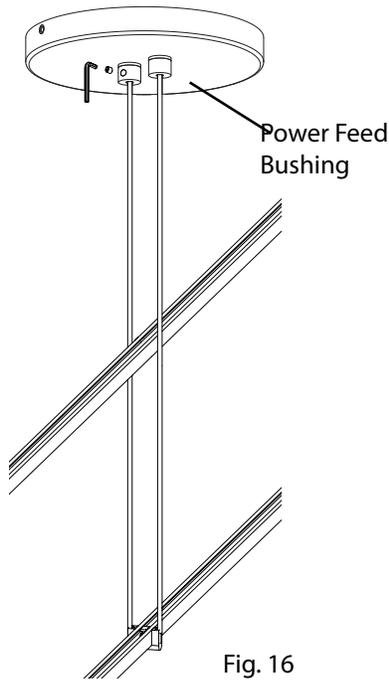

Fig. 16
1. Install **Double Cord Power Feed Hanger** to **Lower Power Bar** and connect to the **Power Feed** by inserting the exposed wires into the **Power Feed Bushings**. Secure by tightening the **Set Screws** with the included **Allen Key** (Fig. 16).